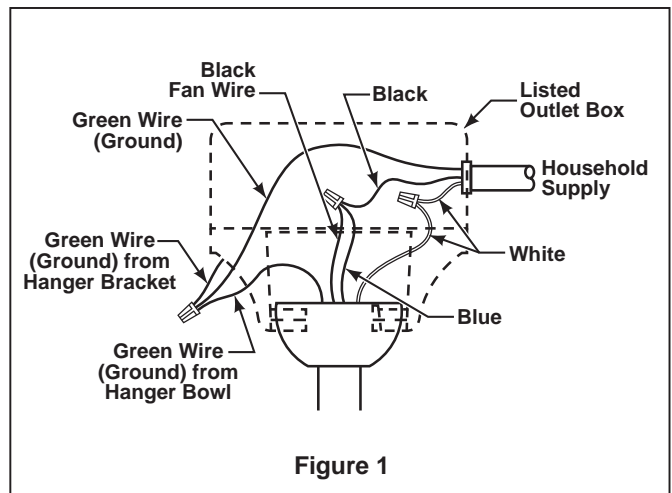

Figure 1
- 2. Securely connect the white fan motor wire to the white supply (neutral) wire using wire connector supplied. Securely connect the black fan motor wire and blue wire to the black supply wire using wire connector supplied. (Figure 1)
- 1. Securely fasten the three blades with phillips-head screws with flat washers. (Figure 1)